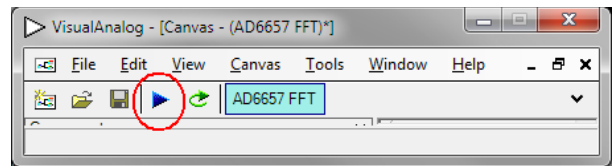

Figure 12. Run Button (Encircled in Red) in VisualAnalog – [Canvas – (AD6657 FFT)*] Toolbar, Collapsed Display
5. Click the **Run** button in the **VisualAnalog – [Canvas – (AD6657 FFT)*]** toolbar (see Figure 12).